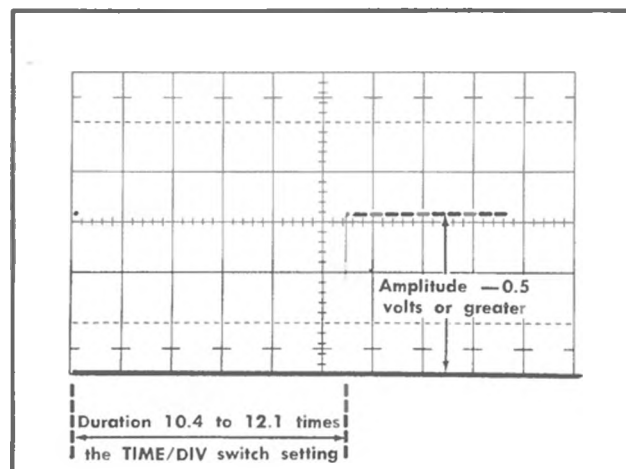

Fig. 6-58. Typical test oscilloscope display of GATE OUT signal. Vertical deflection, 0.2 volts/division; sweep rate, two milliseconds/division.
d. **CHECK**—Test oscilloscope display for 2.5 division or greater amplitude with the top of the waveform at the zero volt level. Gate duration should be 5.2 to 6.05 divisions (—0.5 volt or greater amplitude with duration of 10.4 to 12.1 times the TIME/DIV setting; see Fig. 6-58).